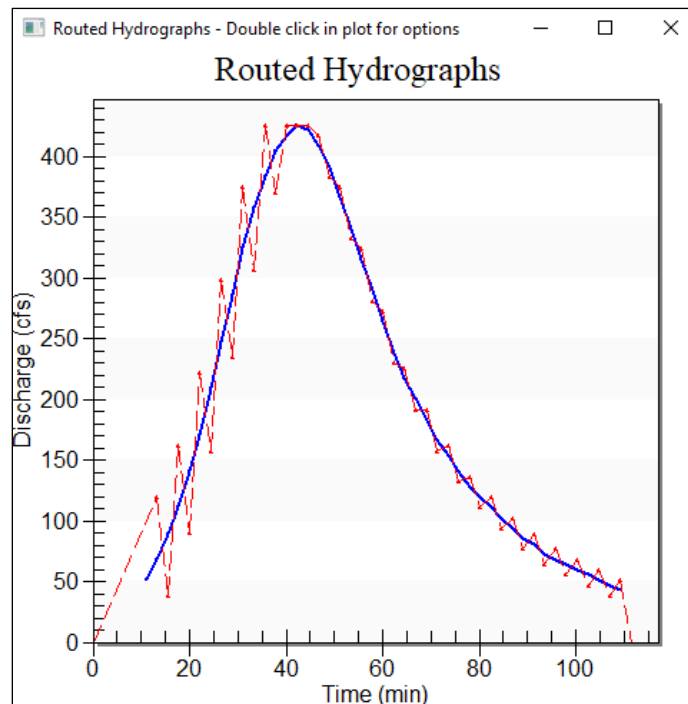

Figure 6 Routed Hydrographs dialog
4. Click **Plot Hydrographs...** to open the *Routed Hydrographs* dialog (Figure 6).